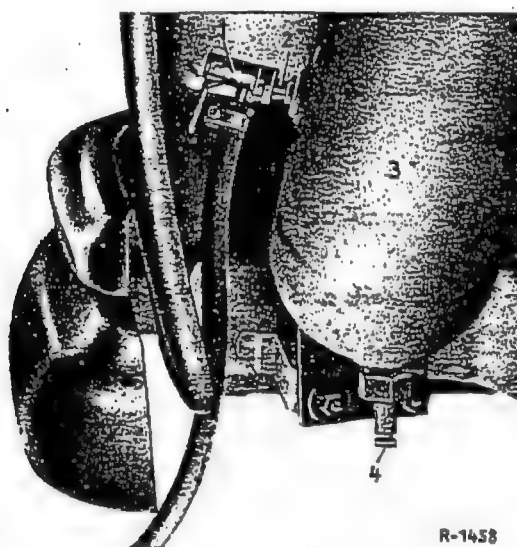

Fig. 32-12/1
Connect the air reservoir via the filler valve (2) to the stationary workshop compressed-air system and fill up until a pressure of approx. 10 atm is reached (Fig. 32-12/1).